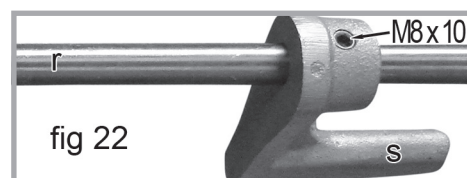

fig 22
1. Locate the work stop. This includes the work stop rod (r), the work stop (s) and the M8 x 10 hexagon socket set screw (see fig 22).